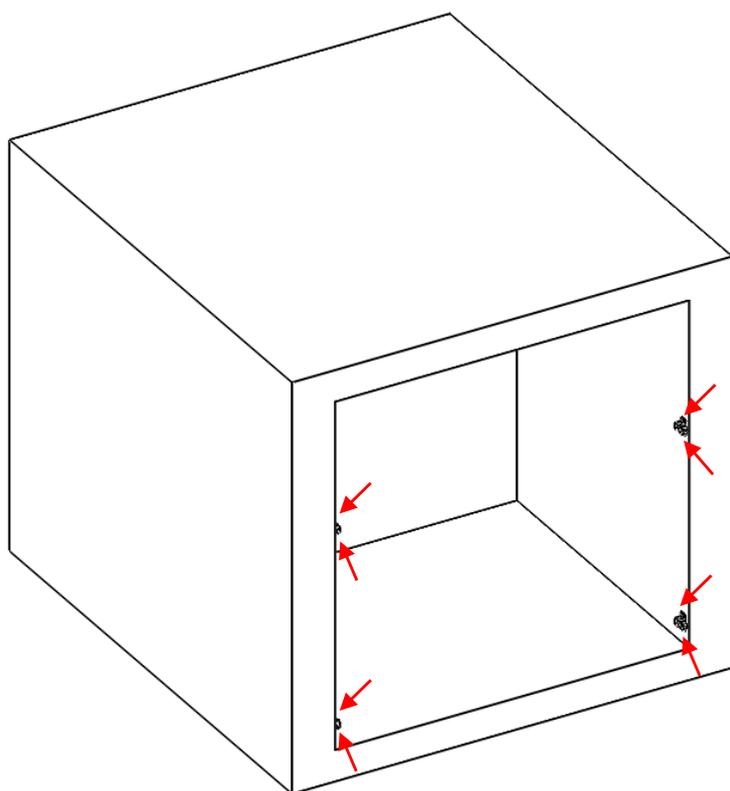

Figure 8
- Next, slide the outer trim into the cabinet cutout and use a marker or pencil to mark where the buckles line up. Then, remove the trim and secure the four buckle seats into the cabinet using the other eight #2 screws (see Figure 8). Make sure the clamp of the bucket seats are facing toward you (see Figure 9).